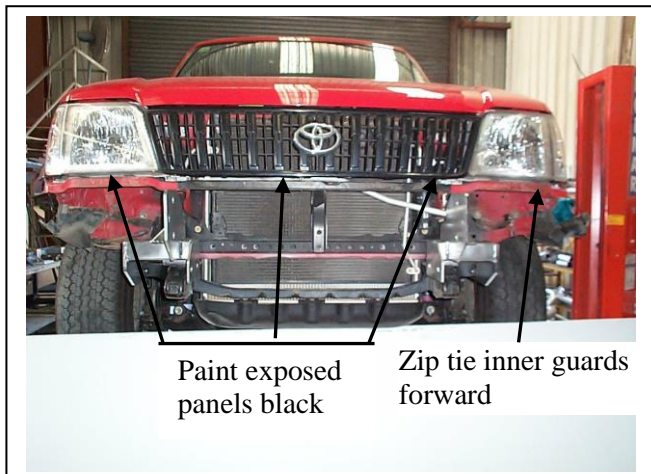

Figure 1
3. Paint exposed panels black. **See figure 1.**
4. Tie plastic inner guards forward to hole in body panel. Use zip ties (supplied). **See figure 1.**